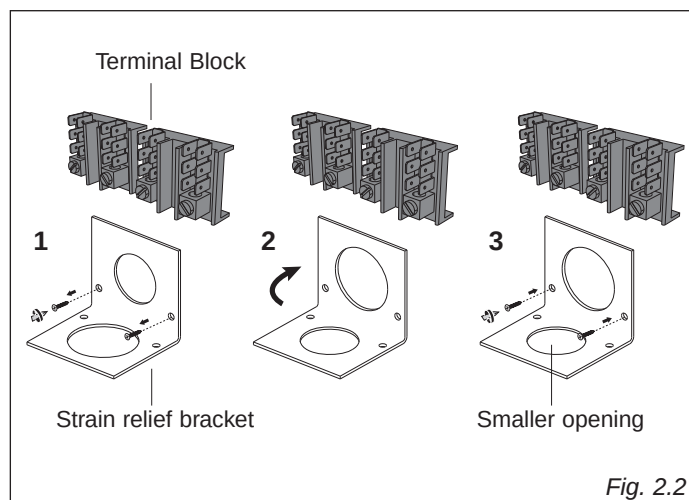

Fig. 2.2
- The strain relief bracket orientation must be so that the 1" 1/8 (28.6 mm) smaller opening is facing down (fig. 2.2). If not, the strain relief bracket orientation must be switched in order to accommodate for a permanent wiring connection: